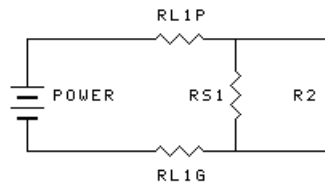

Figure 1b
3. Let us now add station #2 to the network. $RL2p + RL2g + RS2$ can be represented as R2 in Fig. 1b. RS1 and
In a real network, you might have more than 2 stations. In this case, R2 in Fig. 1b represents the equivalent of all the equivalent resistances of all the stations.